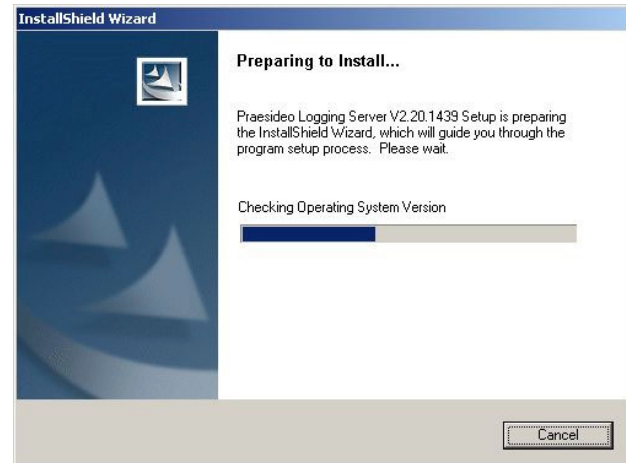

figure 49.1: Logging server setup
- 3 Click the *Open* button to start the setup program of the *Logging Server*. A screen similar to the one in figure 49.1 appears.